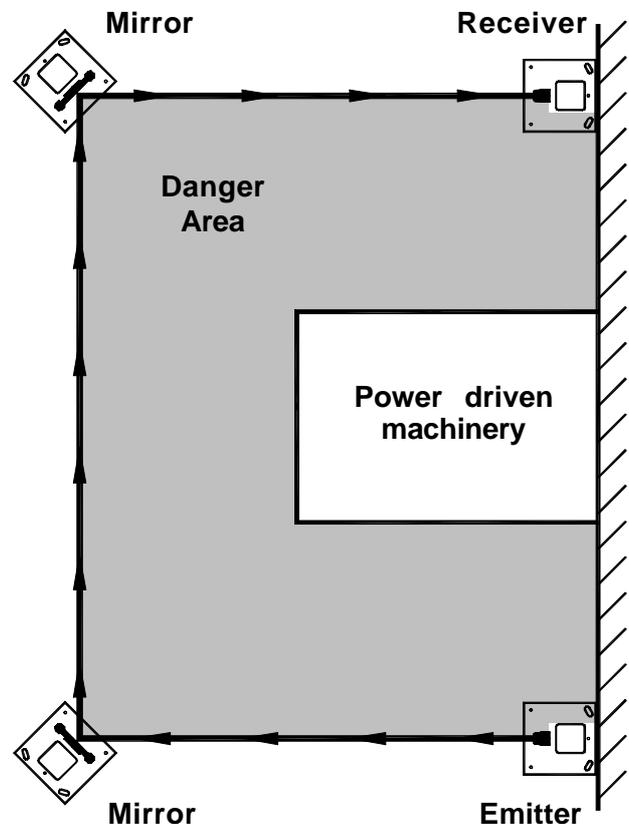

Figure 10 - 'U' shaped protection (when the curtain protects three sides with the addition of two mirror units).
3.4.2 THREE SIDED APPLICATION (FIGURE 10)